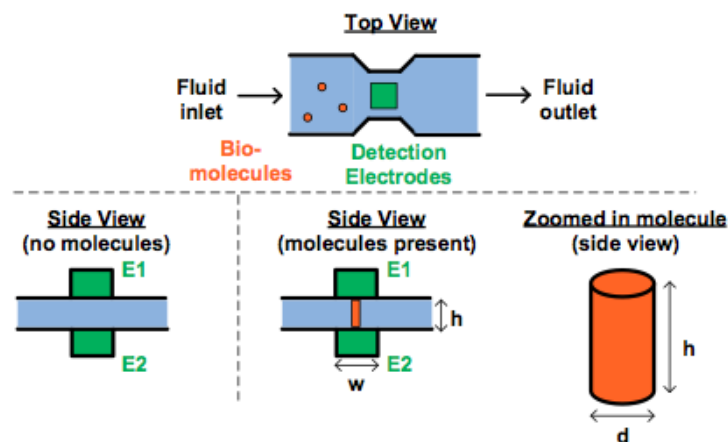

Figure 1: Bio-molecule detector.
As shown in Figure 1, the detector works by flowing a liquid that may or may not contain the biomolecules through a region in the device that has electrodes on the top and bottom of the liquid channel. The electrodes (E1/E2 in Figure 1) are chemically “functionalized” (using e.g. some appropriately designed antibodies), so that if the specific bio-molecule of interest is present in the fluid sample, one or more of the molecules will get physically trapped between the two electrodes (bottom right of Figure 1). After all of the fluid has been cleared out of the device (i.e., so that if there are no bio-molecules present, there is only air in between the two electrodes E1/E2), we can then figure out whether or not one or more bio-molecules were trapped by measuring the resistance between the two electrodes.
- Let’s first assume that we want to detect the presence of a bio-molecule by measuring resistance. If no bio-molecule is present, what should be the resistance between E1/E2? As shown in Figure 1, if each bio-molecule is a cylinder with diameter $d = 10\text{nm}$, height $h = 100\text{nm}$, and has a resistivity $\rho = 100\mu\Omega\text{m}$, what would be the resistance between E1 and E2 if only a single bio-molecule has been trapped? Note that you can assume that the trapped molecule is exactly vertically oriented when it is trapped – i.e., the top and bottom faces of the molecule are both aligned with surfaces of the electrodes.